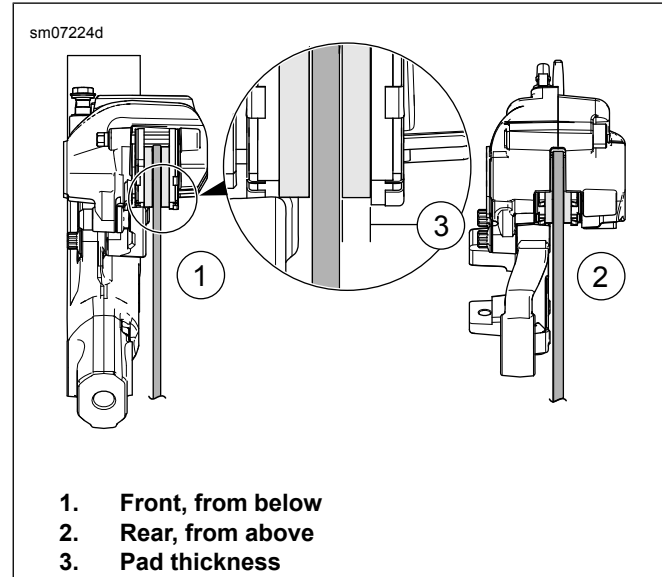

Figure 53. Brake Pad Thickness
2. See Figure 53. Measure the thickness of the brake pad friction material. For rear brakes, place the ruler against the brake disc through the space alongside the caliper.